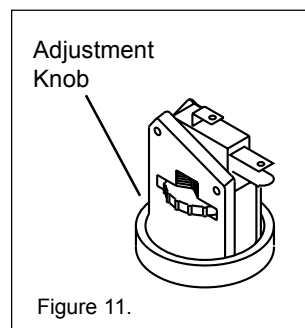

Figure 11.
5. Turn the adjustment knob clockwise or away from the micro-switch, until the heater shuts down; see Figure 11.